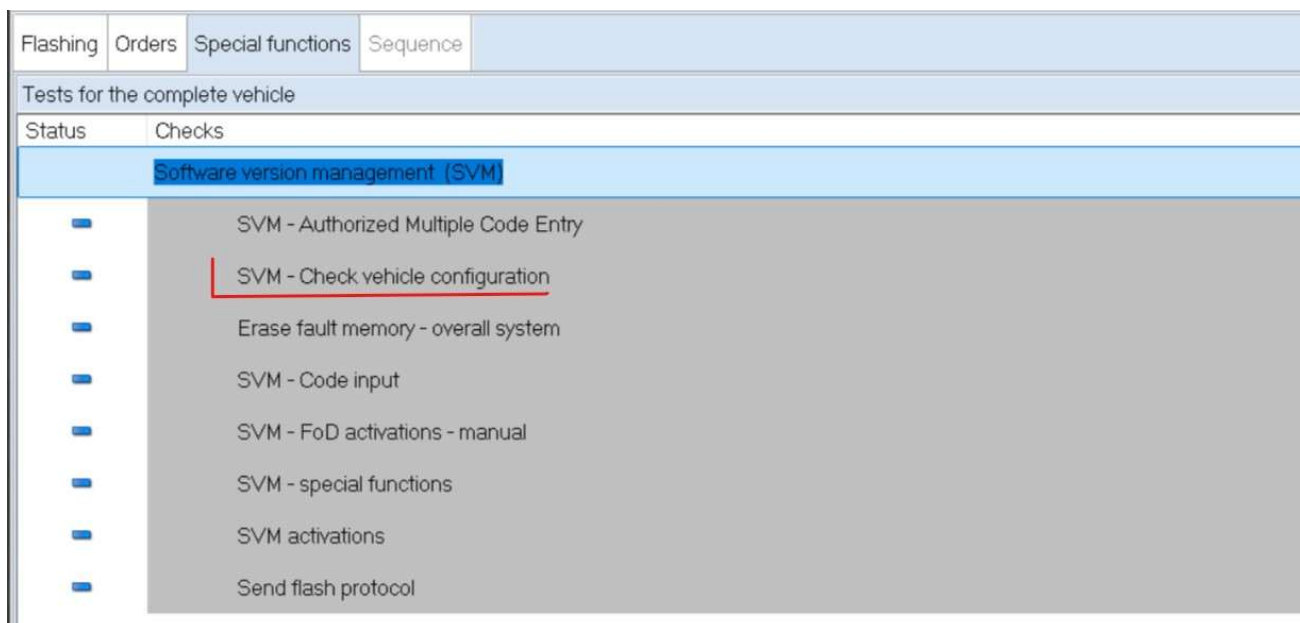

Figure 2: ODIS SVM Test Plan
1. Run the test program **"SVM – Check vehicle configuration"** in ODIS (Figure 2). This step is required to use the SVM-code in step 2.